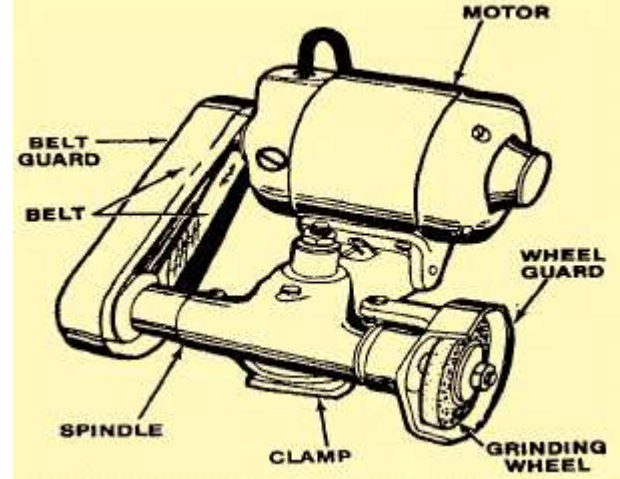

Figure 5-4. Tool post grinding machine.
**Tool Post Grinding Machine:** The tool post grinding machine, see Figure 5-4, is a machine tool attachment designed to mount to the tool post of engine lathes. As described in a later lesson, it is used for internal and external grinding of cylindrical workplaces.